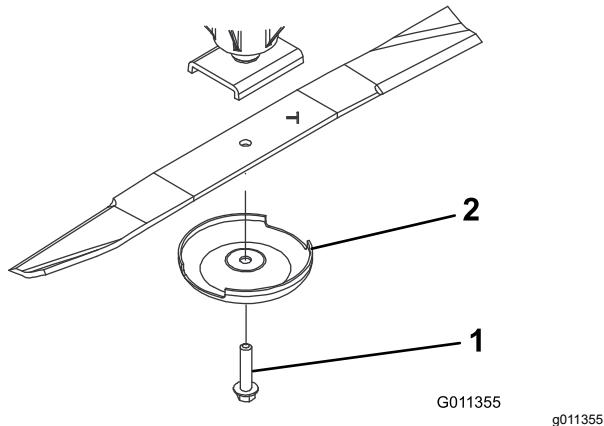

Figure 91
3. Remove the blade bolt, anti-scalp cup, and blade from the spindle shaft (Figure 91).